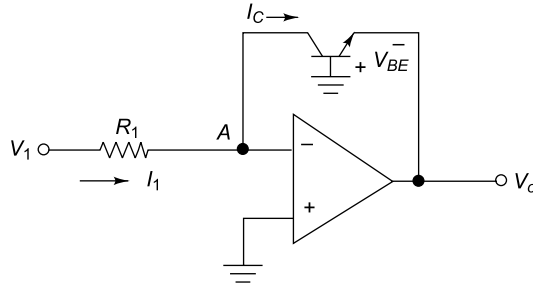

Fig. 5.94
32. Determine the output voltage V_o of a log amplifier using OP-AMP and transistor as shown in Fig. 5.94. Assume $V_{in} = 500$ mV, $R = 10$ kΩ, $T = 290^\circ$ K and $I_S = 10^{-13}$ A